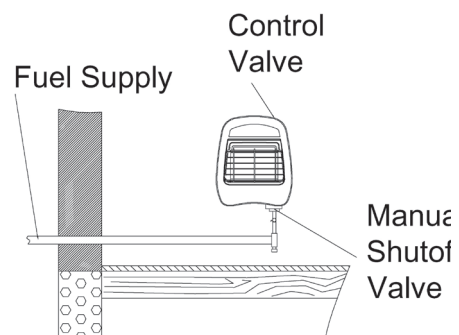

Figure 16 - Fuel Supply
1. Open equipment shutoff valve (see Figure 16).
5. Check all joints from equipment shutoff valve to control valve (see Figure 16). Apply mixture of liquid soap and water to gas joints. Bubbles forming show a leak.